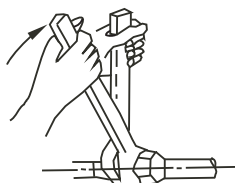

Fig.6-5
- Put the connecting tubing at the proper position, wrench the nuts with hands then fasten it with a wrench. (Refer to Fig.6-5)